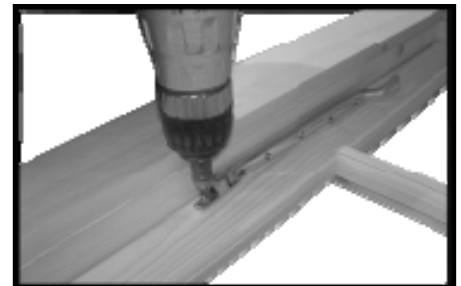

Fig A18
31. Fit the Casement Stay (fig A18) on the window using 2x 25mm screws.